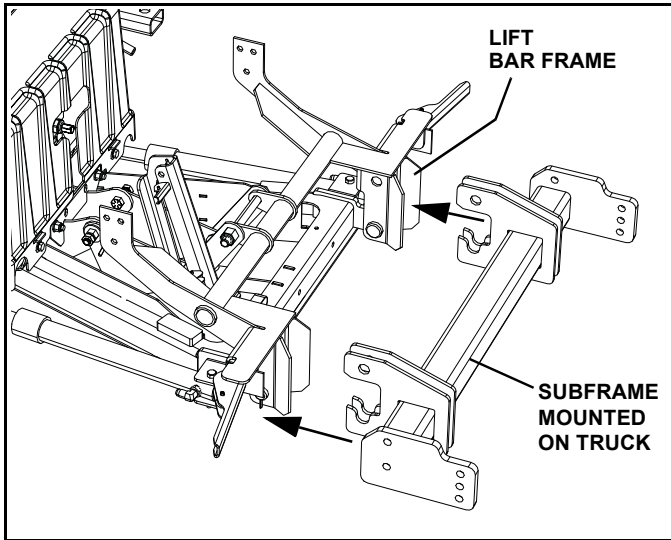

Figure 1-9
1. Drive truck into plow. Align lift bar frame outside of subframe lugs. Pins should fit inside slots cut into subframe lugs. (See Figure 1-9).